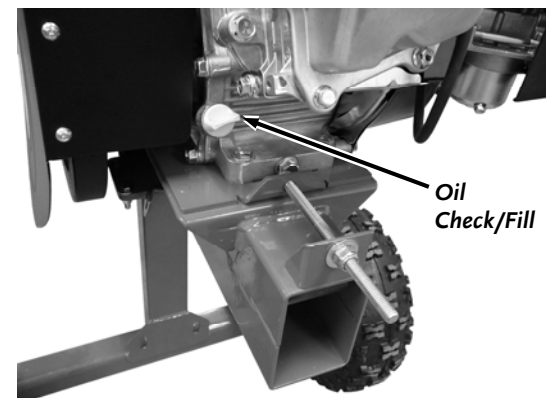

Figure 6
1. Position the machine so the Frame and Engine are level. Remove the Oil Fill/Dipstick (**Figure 6**) and clean the end of it with a rag.